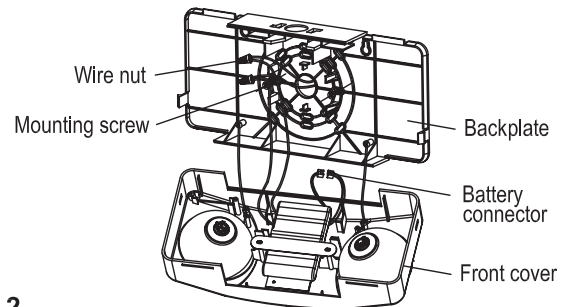

Fig 2
A Wall Mount - Back Power Feed (see Fig 2)
7. Plug male battery connector into female battery connector on PCBA. (See Fig 2)